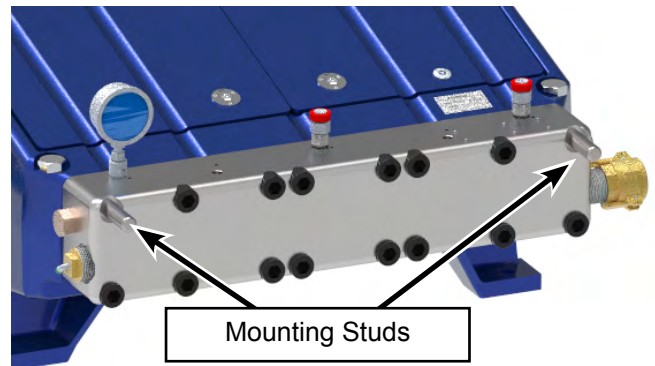

Figure 35: Install Mounting Studs.
6. Remove the top manifold bolts at each corner and install manifold mounting studs PN 54261 into the two open holes to allow for easier installation of the new manifold (Figure 35)